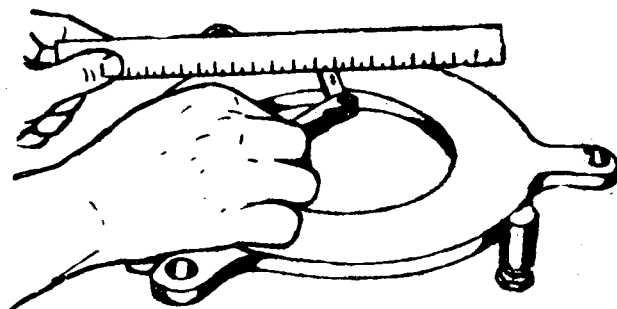

Fig. 3
- b) Check if the surface of the pressure plate is flat (Fig. 3).